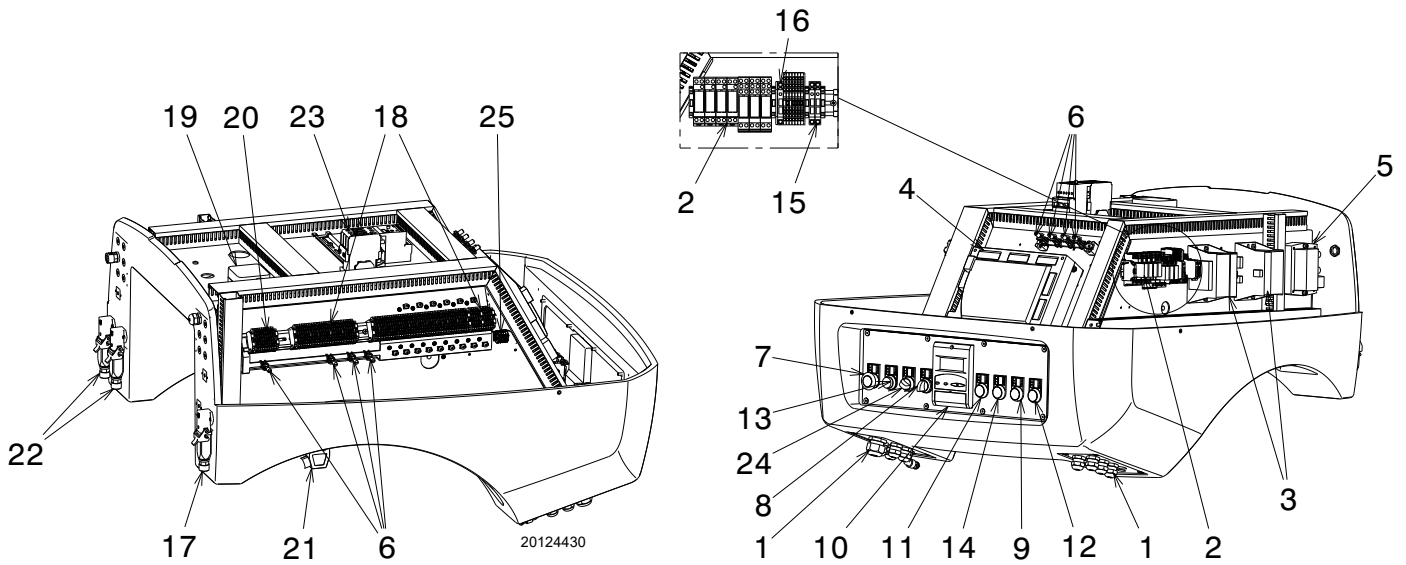

Fig. 5
- **Control box lockout:** the switching on of the button (**red led**) 13)(Fig. 5) signals that the burner is in lockout. Release by pressing button 13)(Fig. 5) or use the display.